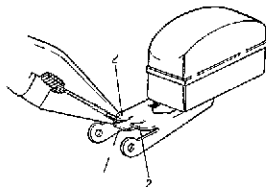

Fig 5-22 Float Level Adjustment X4985
To obtain a correct clearance, bend the tabs at (1) in figure 5-22.
To obtain a correct clearance, bend the float tabs at (2) in figure 5-22.